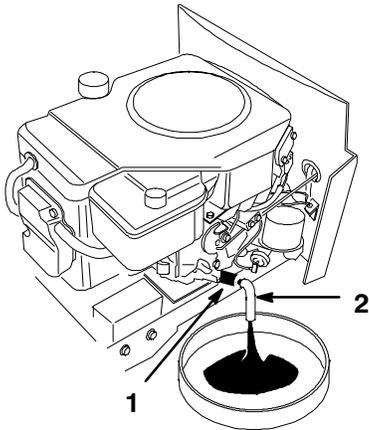

Figure 20
5. Place a pan below the oil drain. Open the drain by turning counterclockwise, 1/8 turn and pull out (Fig. 20).